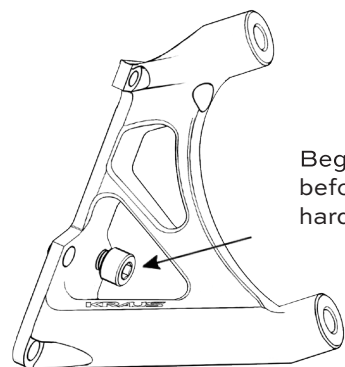
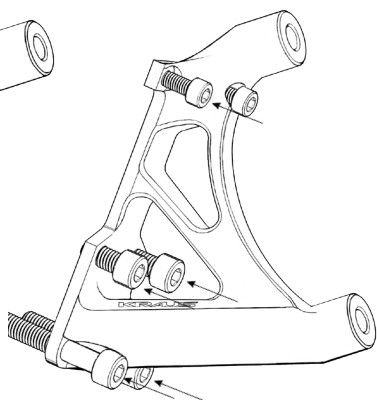

Fig. 3
Fig. 4
2. Using supplied hardware from fork component box, begin with the screw position on inner middle hole closest to wheel **(See Fig. 3)**, torque to spec, (Upper M6 Screws; 7Nm/62in-lbs), (Lower M8 Screws; 19Nm/170in-lbs). Leave axle screws loose. **(See Fig. 4)**